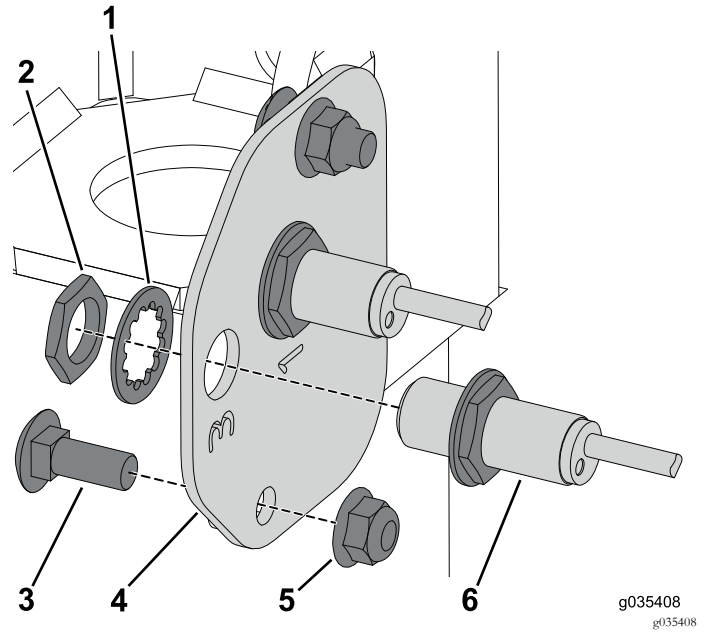

Figure 3
5. Remove the retaining nuts and washers from the front of the proximity sensors on the right side sensor plate and set them aside (Figure 3).
7. Remove the carriage bolts and flange nuts securing the right sensor plate to the frame (Figure 3).